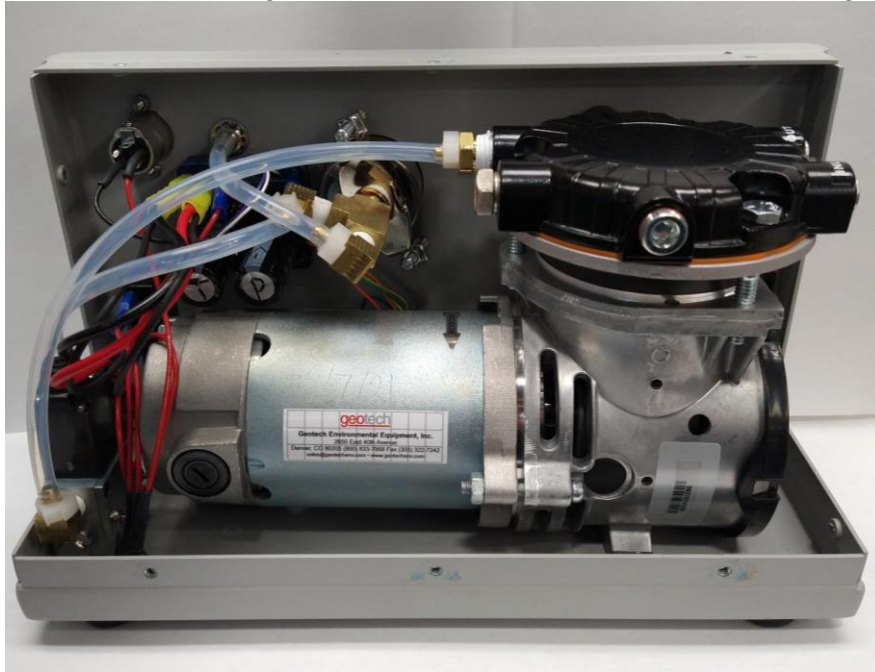

Figure 4-1: Compressor
- Do not remove the tubing at the connections on the solenoid. See Figure 4-1.